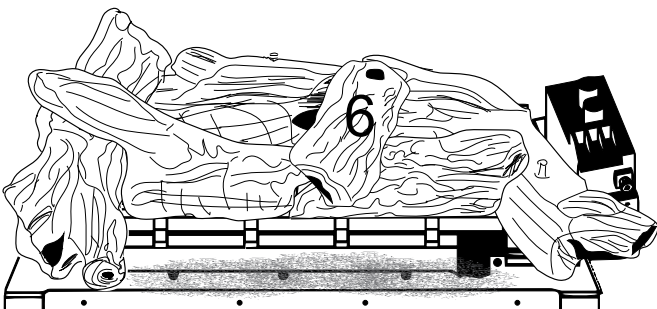

Figure 5.7 - Log #6 Placement
7. Hold log #6 with the flat end toward the back. Place log #6 by positioning the pin locator hole on the bottom of the log over the pin on log #2 and set on top of log #4. See Figure 5.7.